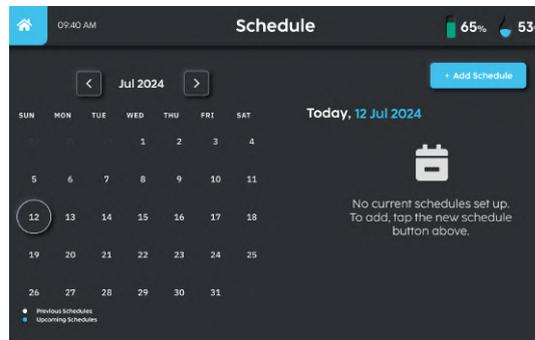

FIGURE 6-27
1. Click 'Add Schedule' to start adding the schedule (Fig. 6-27).